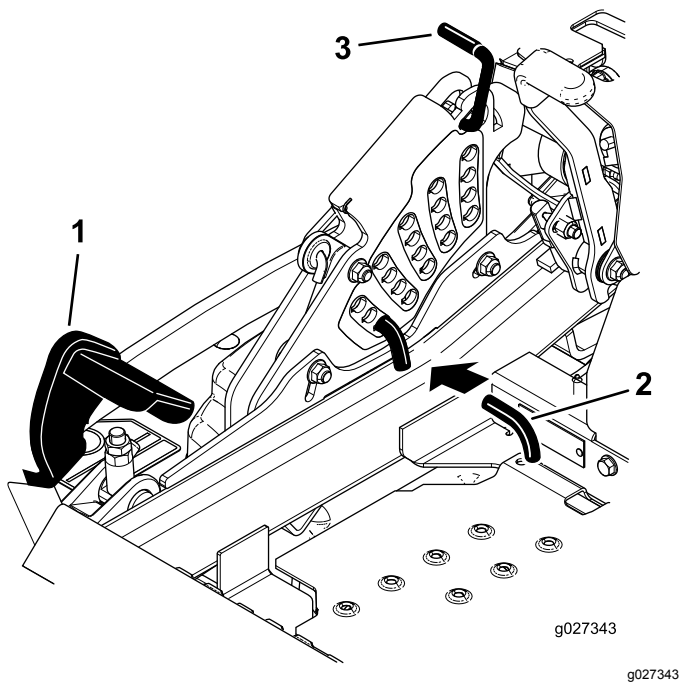

Figure 25
2. Push on the deck-lift pedal with your foot and raise the mower deck to the Transport position (also the 140 mm or 5-1/2 inch cutting-height position) as shown in Figure 25.
3. To adjust, rotate the pin 90 degrees and remove the pin from the height-of-cut bracket (Figure 25).
4. Select a hole in the height-of-cut bracket corresponding to the height-of-cut desired, and insert the pin (Figure 25).